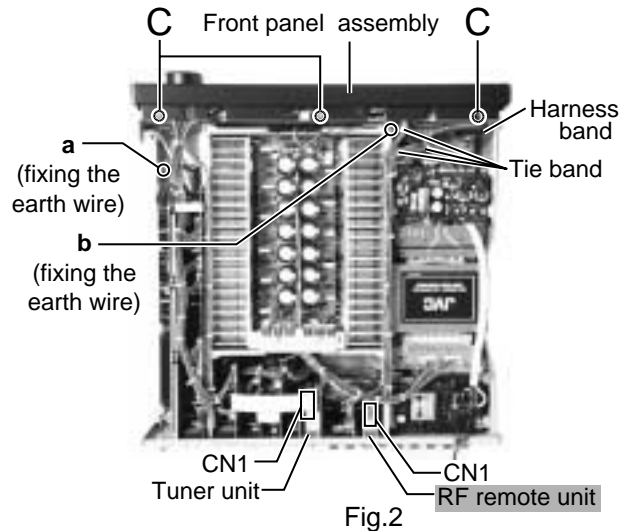
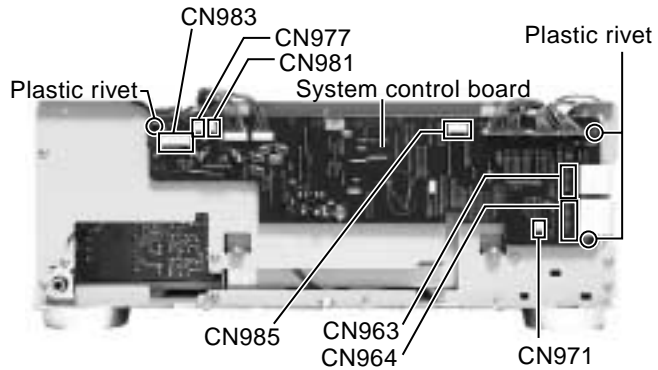

Fig.2
Fig.5
### ■ Removing the front panel assembly (See Fig.2 and 3)
2. Disconnect the harness from the connector CN971, CN977, CN983 and CN985 on the system control board (see fig.5) and CN973 on the front AV in board (see Front panel assembly section/ fig.2).
### ■ Removing the tuner unit & RF remote unit (See Fig.2 and 4)
### ■ Removing the system control board (See Fig.5 and 6)